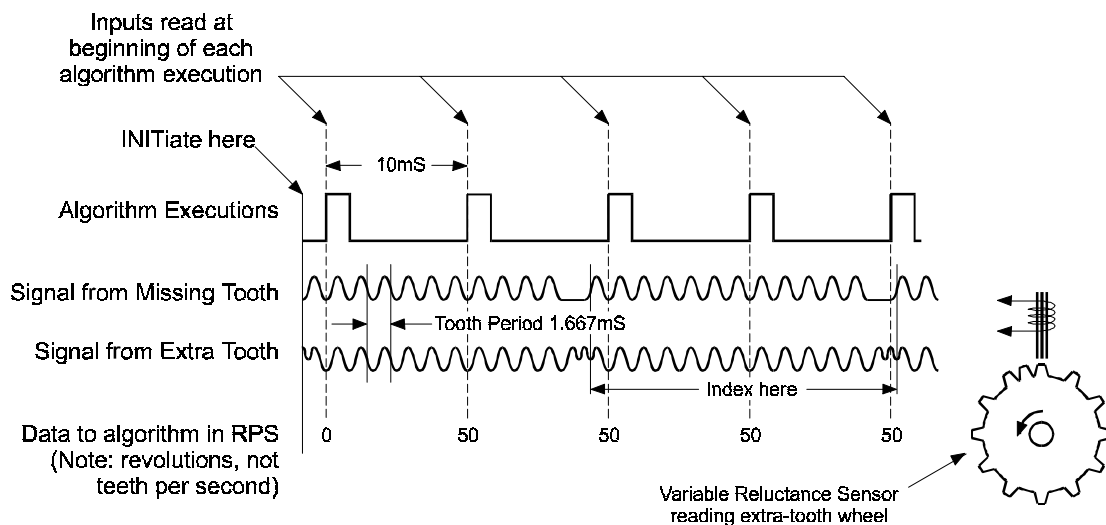

Figure 13 Sense Rotational Velocity
This means that the HP E1538 will read the rotational velocity of a toothed wheel sensor. The HP E1538 measures tooth-to-tooth period and converts it into units of revolutions per second (RPS). This function can only be linked to the HP E1538's first channel. The function works for wheels that have either a missing, or an extra tooth to mark their index position. Figure 13 shows a wheel sensed with a variable reluctance sensor (using the VRS input option), but any wheel sensing method is applicable as long as it provides a digital output to the RVEL channel.
- <n_teeth> is the number of teeth that the wheel would have if it didn't have missing or extra teeth. For example, we would set <n_teeth> to 12 for the wheel shown in Figure 13, even though with the missing tooth, there are only 11. <n_teeth> can range from 3 to 255.